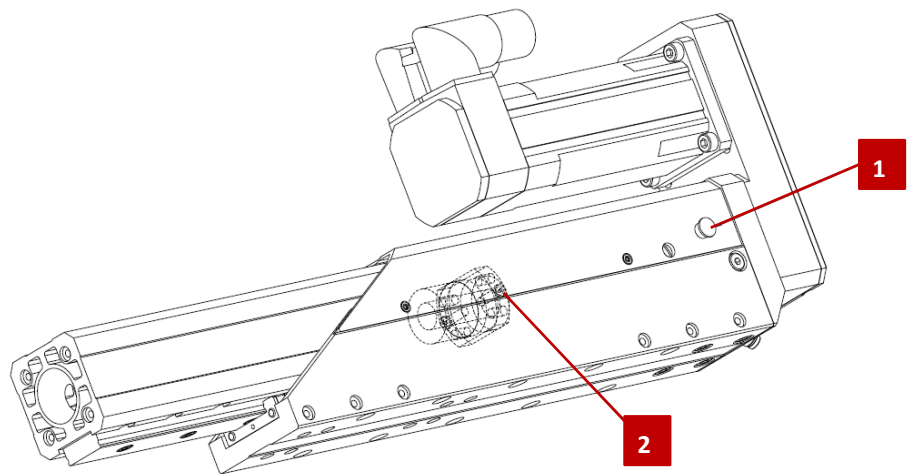

Fig. 12 Telescope spindle axis - grease nipple spindle gearbox
3. Remove the blind plug (Fig. 12, 1) from the spindle cover.